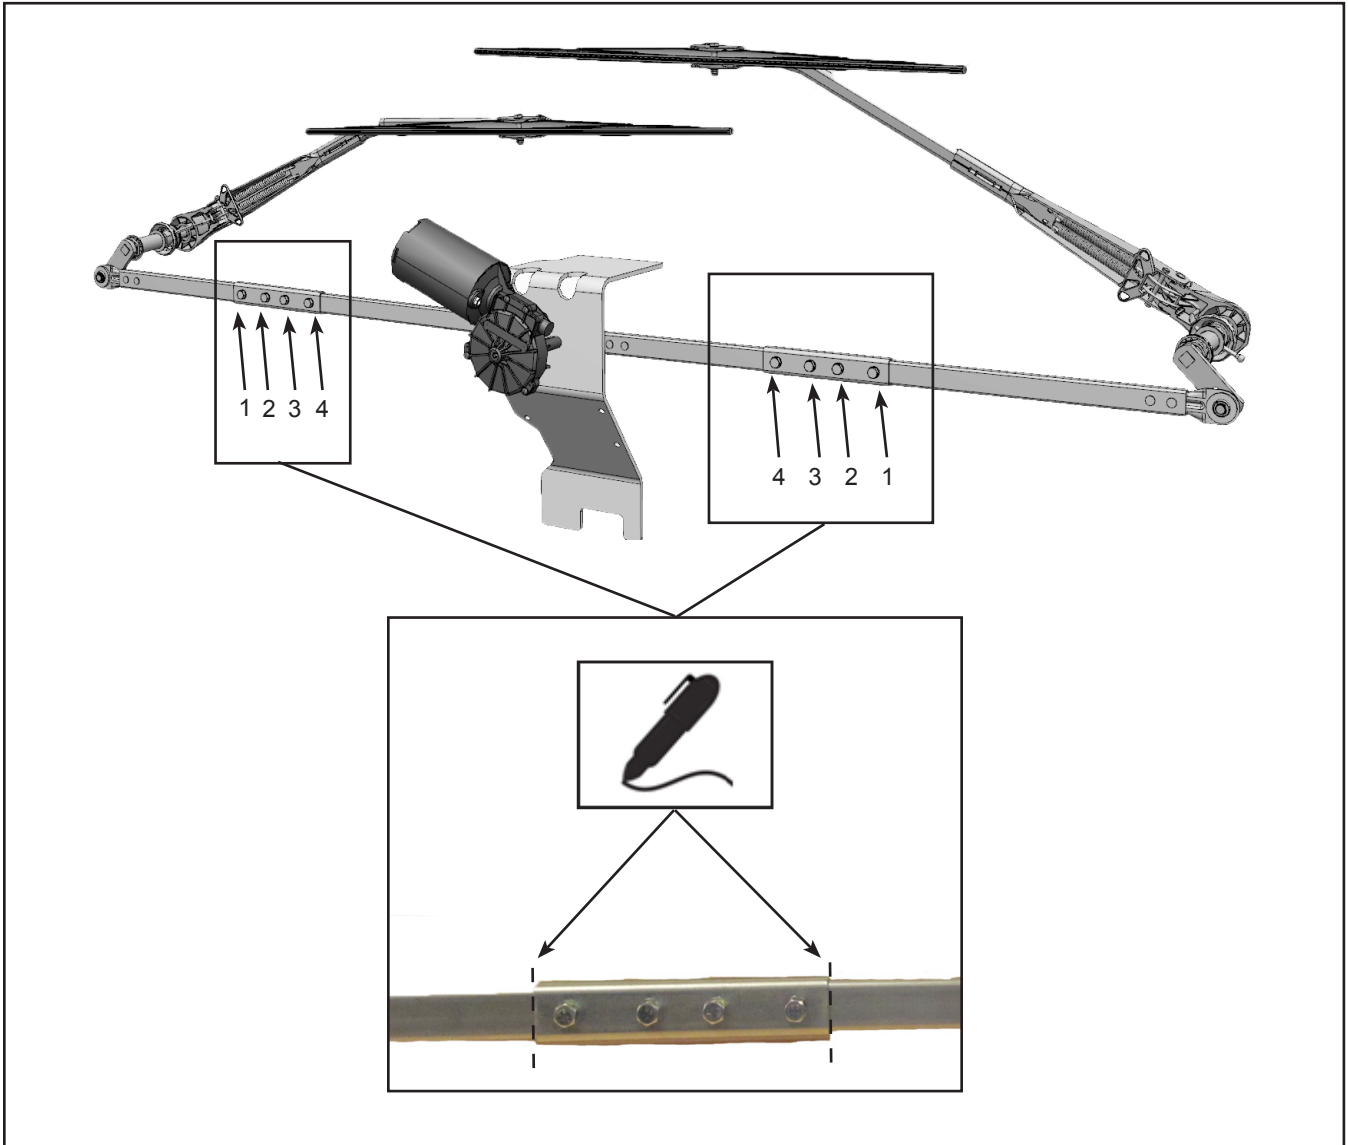

Figure 5 - Make Marks on the Linkage
- 1.7. Before removing the original linkage assembly, make a mark at the joint on each side of the 4 bolts. In order to facilitate the repositioning of the new linkage assembly. See Figure 5. Typical for curb and street sides.
- 1.8. Remove bolts #3 and #4, then loosen bolts #2. Leave bolts #1 tight on both sides. See Figure 5 for the bolt positions.